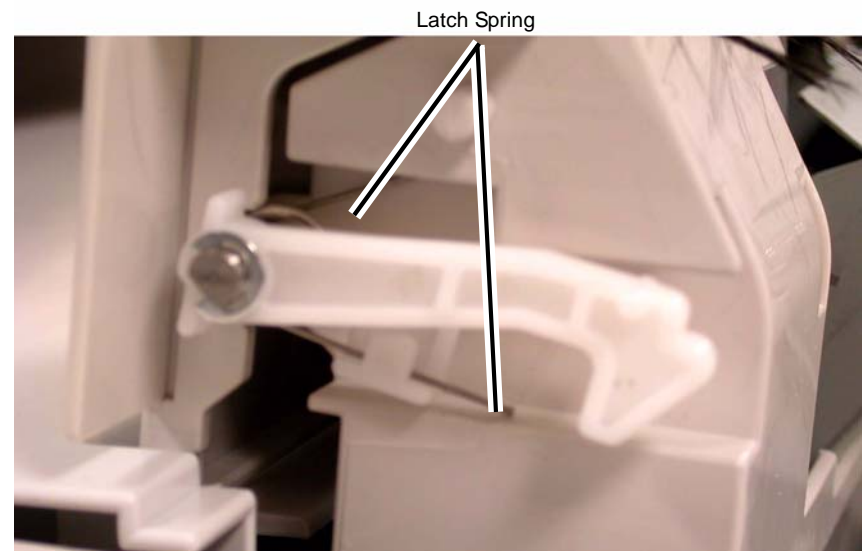

Figure 4 Positioning the Latch Spring
3. Place the Latch Spring in the position shown (Figure 4).